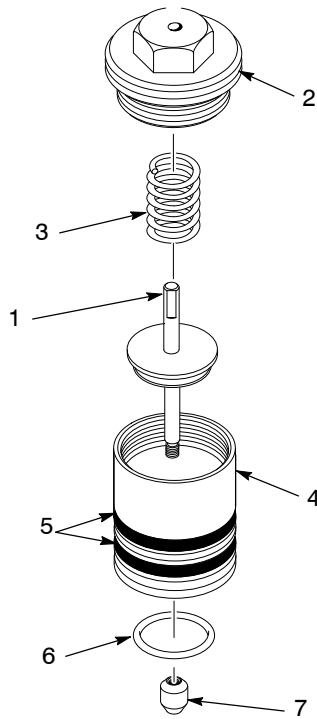

Figure 8 Microvalve Disassembly
1. See Figure 8. Remove the end cap (2) with the microvalve tool by rotating counterclockwise.
2. Remove the compression spring (3) from the microvalve.
3. Remove the poppet (7) by turning it counterclockwise while holding on to the flats of the piston stem (1) with a wrench.
2. See Figure 8. Using a wrench to hold the flats at the top of the piston stem, screw the poppet (7) clockwise onto the stem until the poppet bottoms out on the flat edge just past the threads.